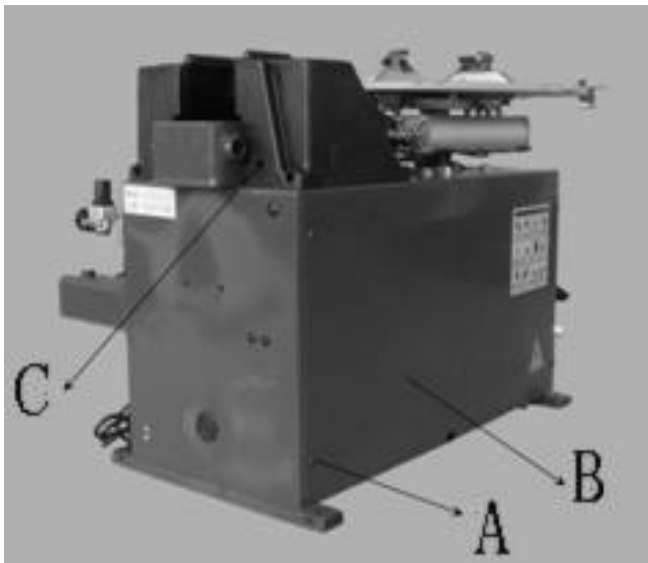

Fig 4-2
Place the machine cabinet on the ground stably in the working field. Open the accessory box. Take out the rotation shaft assembly (Fig4-1 A) and push-out shaft assembly (Fig4-2 B) and clean up and spread the grease.
4.2.6 Unscrew off the fix screw on the side panel (Fig4-2 A), Detach the side panel (Fig4-2 B) and the fix screw on the tool box (Fig4-2 C) . Take out the tool box.